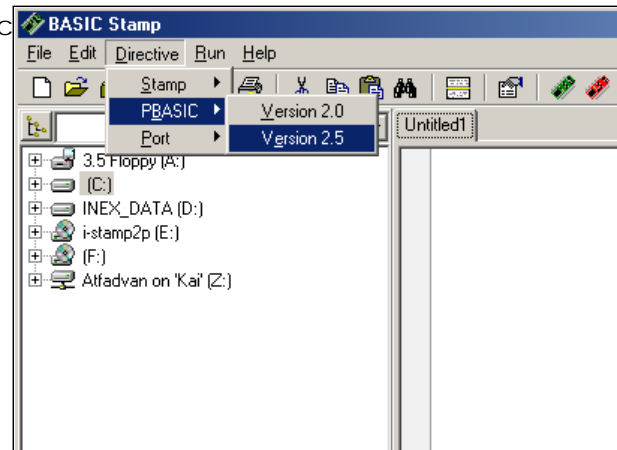

Figure 6 : Show PBASIC2.5 directive selection.
4.4 Select suitable PBASIC version by enter Directive menu and select PBASIC2.5 directive (Figure 6).